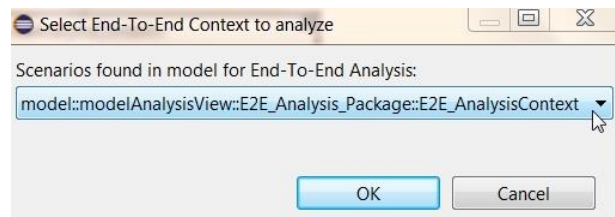

Figure 51 End2End Analysis Context selection
11. Select the context for the End2End Analysis. The dialog offers a choice between all the End2End Analysis Contexts found in the CHES model (Figure 51)